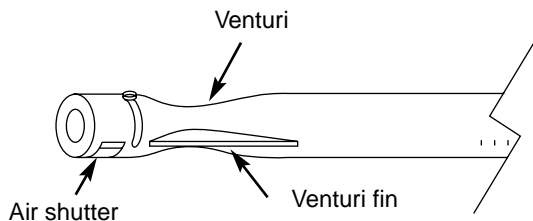

Figure 8
- Replacement LP tanks supplied by Weber satisfy the requirements. Check to be sure the tank has a D.O.T. certification, and has been tested within five years. Your LP gas supplier can do this for you. Figure 8.
Your Weber Gas Barbecue, as well as any outdoor gas appliance, is a target for spiders and other insects. They can nest in the venturi section of the burner tubes. This blocks the normal gas flow, and can cause the gas to flow back out of the air shutter. Figure 8. This could result in a fire in and around the air shutters, under the control panel, causing serious damage to your barbecue.